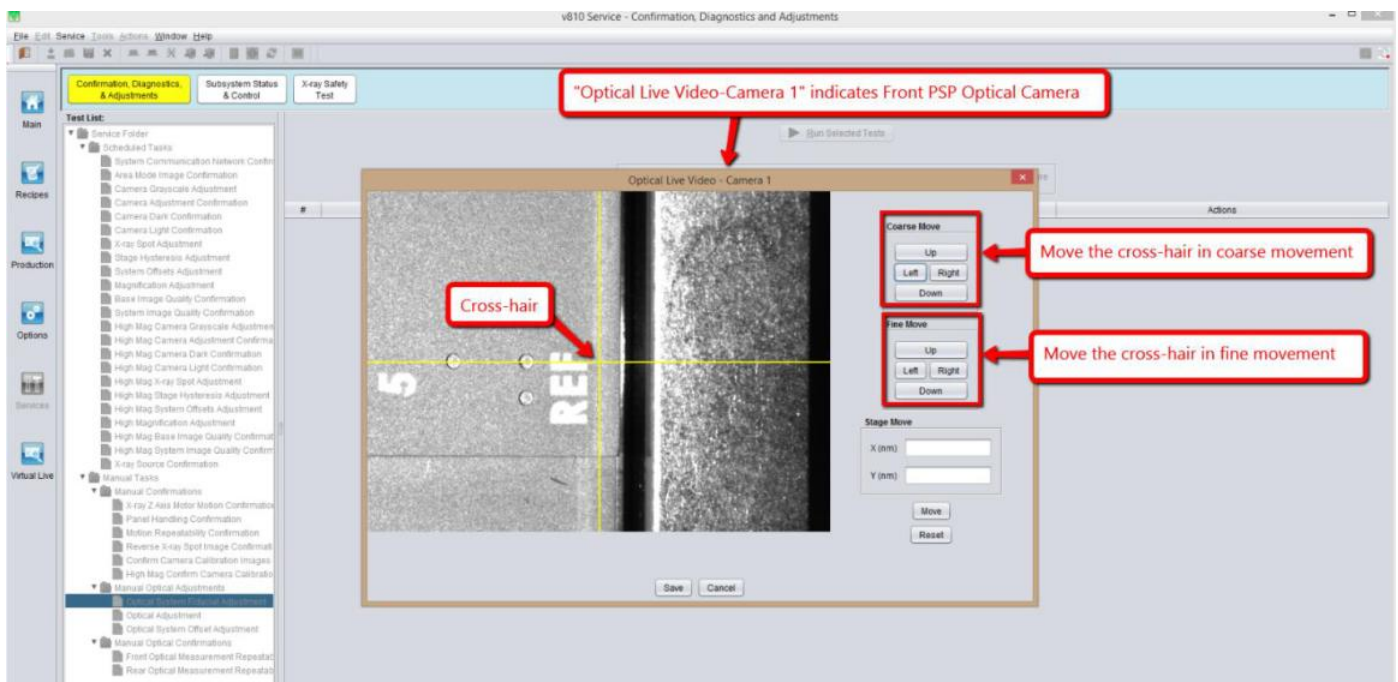

Figure 6 Front PSP Optical Camera
9. XY stage will move to Front PSP Module and the image will be generated as shown in Figure 6.